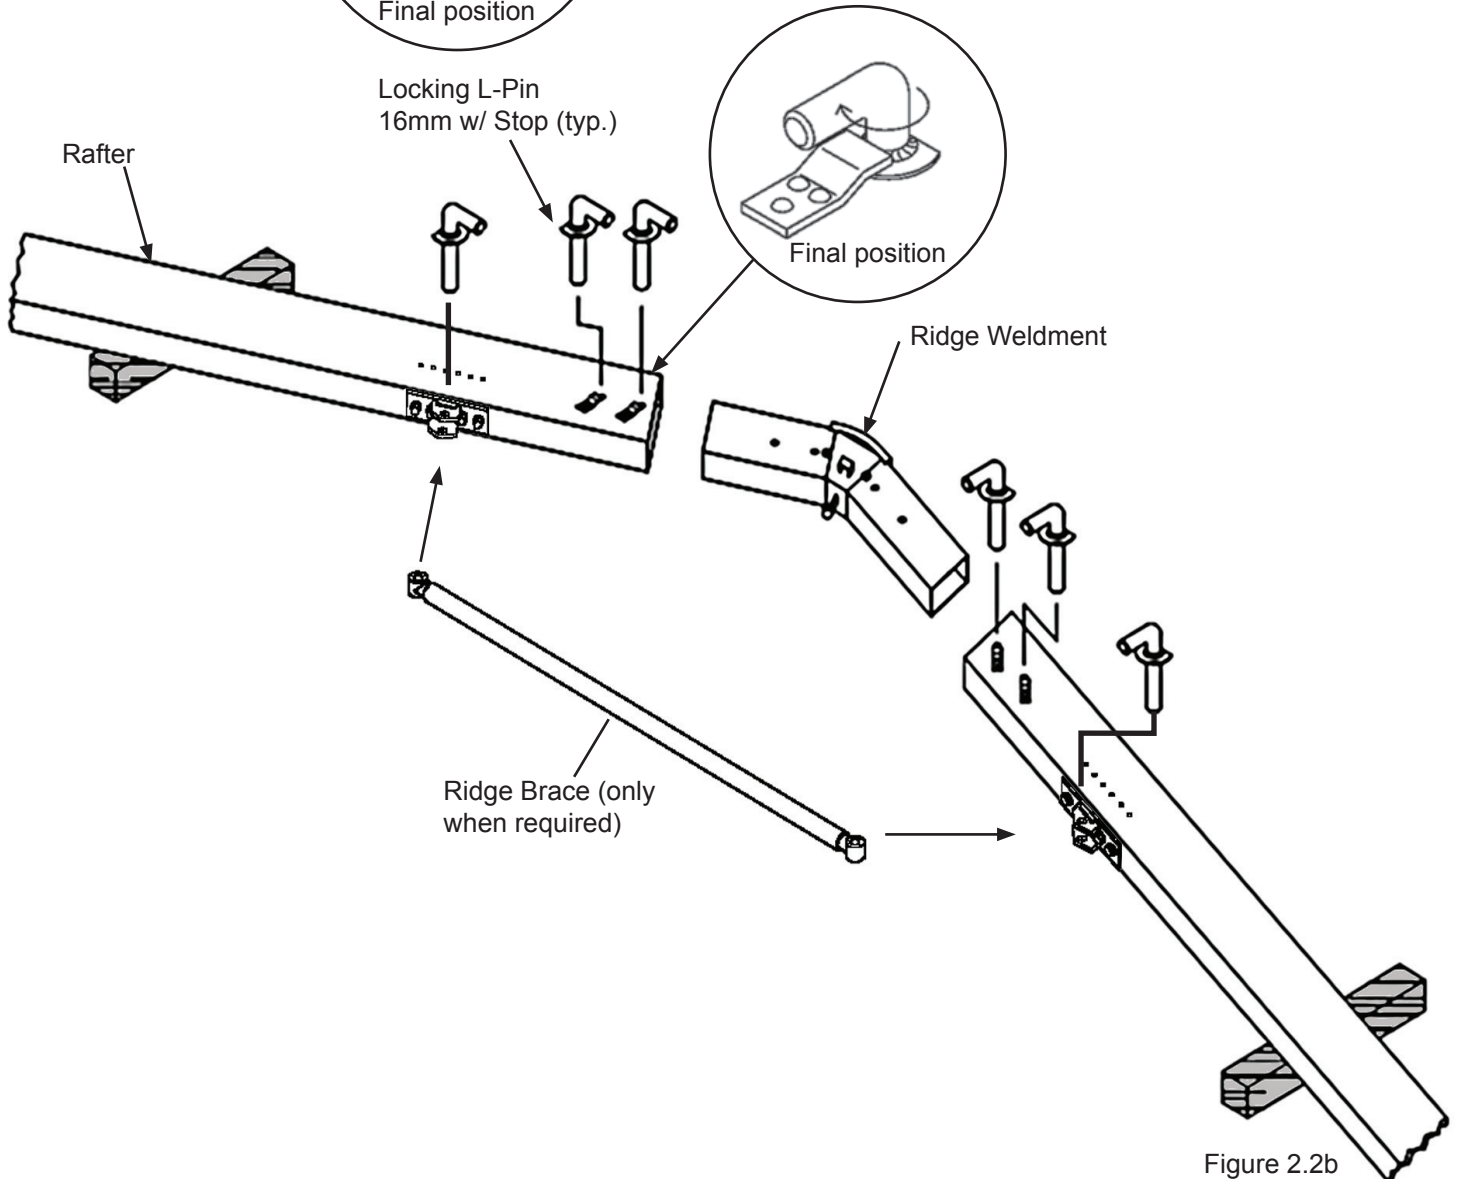

Figure 2.2b
2.2.4 Insert Ridge Weldment into end of rafter and secure using Locking L-Pins. Ensure L-Pin is turned so the stop collar is locked behind tab on rafter. See **Figure 2.2b**. **IMPORTANT:** At the gable ends, the head of the pin must be on the exterior side of the rafter to minimize any snagging possibilities when installing the gable end fabric.